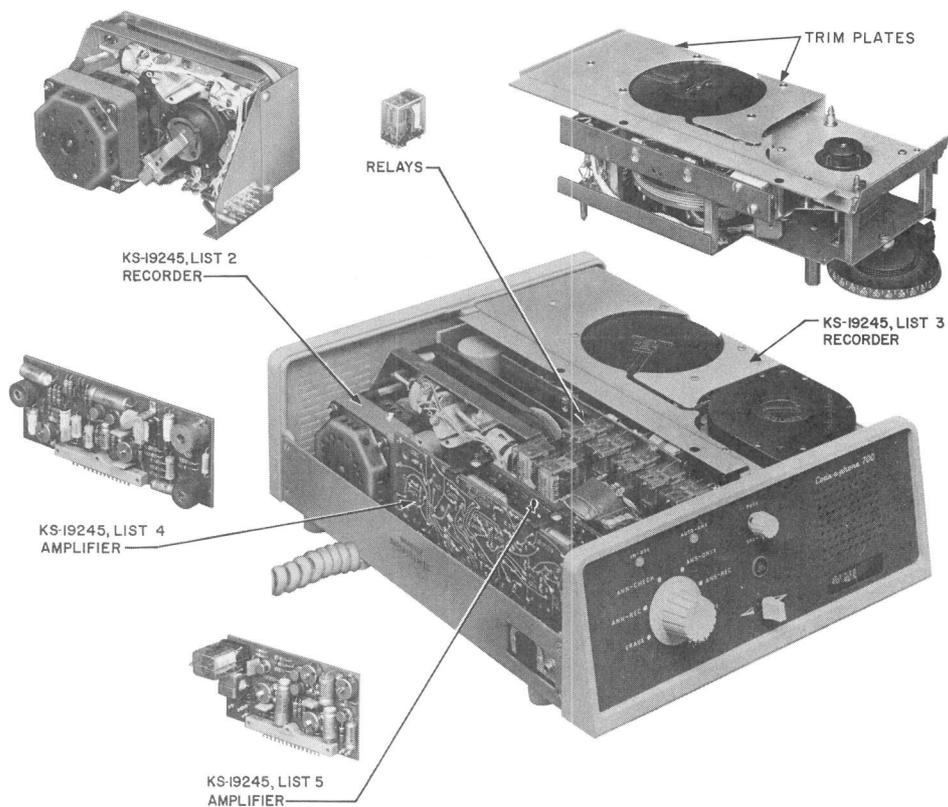

Fig. 3—KS-19245, List 1 Telephone Answering Set, Top Cover Removed
- (1) Remove top cover (2.01).
- (2) Remove List 2 recorder (Fig. 3):
Do not lift or pry on the trim plates (Fig. 3).
- (1) Remove top cover of answering set (2.01).
- (2) Slide wire spring retainer from relay.
- (3) Remove relay from its plug-in socket (Fig. 3).